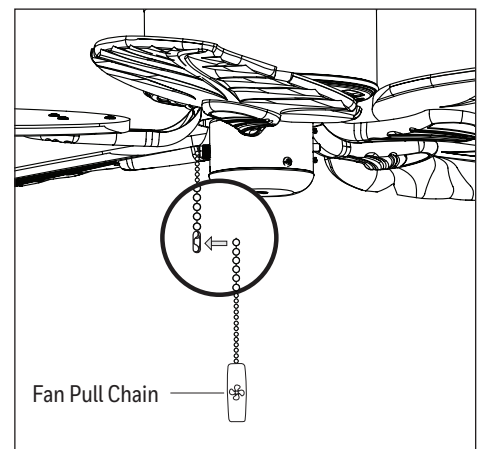

Figure 6.3
3. Attach the pull chain extension (Figure 6.3). Turn on power to fan at breaker box and the wall switch. Assembly is complete.